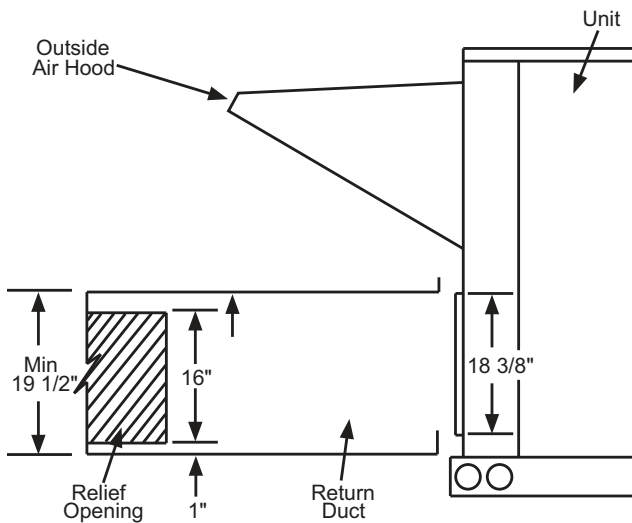

Fig. 23 — Relief Damper
1. Install the field provided horizontal ductwork onto the unit. Duct height must be at least 19-1/2 in. high, however the duct can be no taller than the top of the relief opening in the bottom panel, or airflow into the outside air hood will be restricted. (See Fig. 23.)
2. Cut a 16 in. x 36 in. opening in the return duct for the relief damper. (See Fig. 23.)